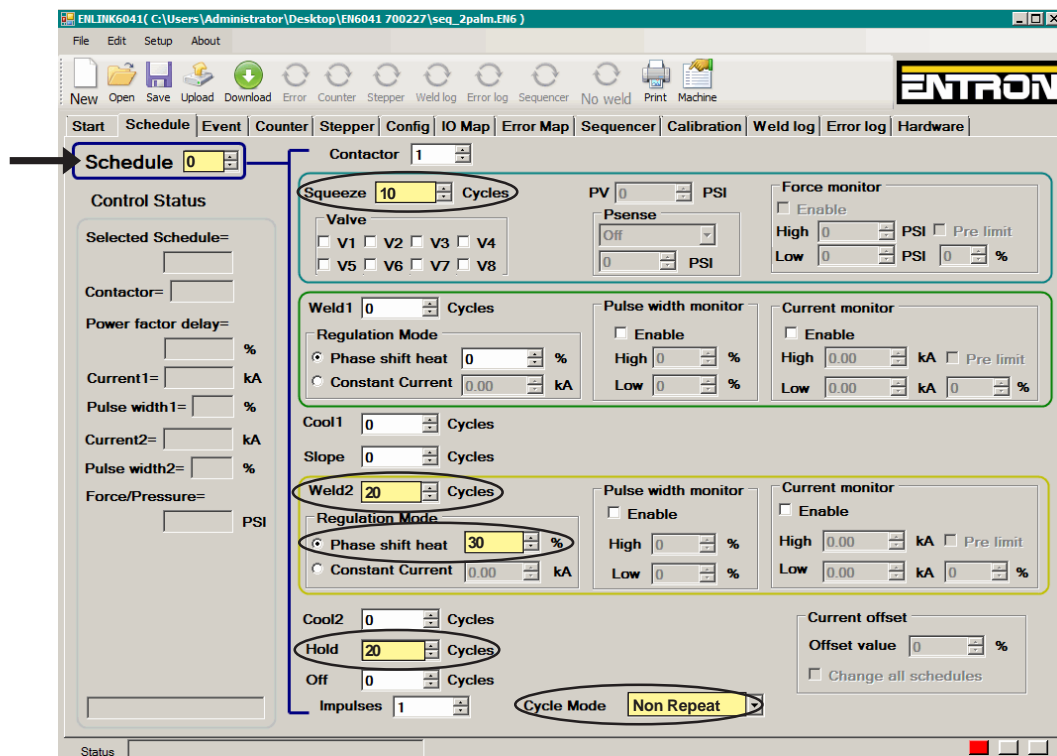

Figure 9-35. Edit SCHEDULE 0
A. Edit SCHEDULE 0 as shown in Figure 9-35.